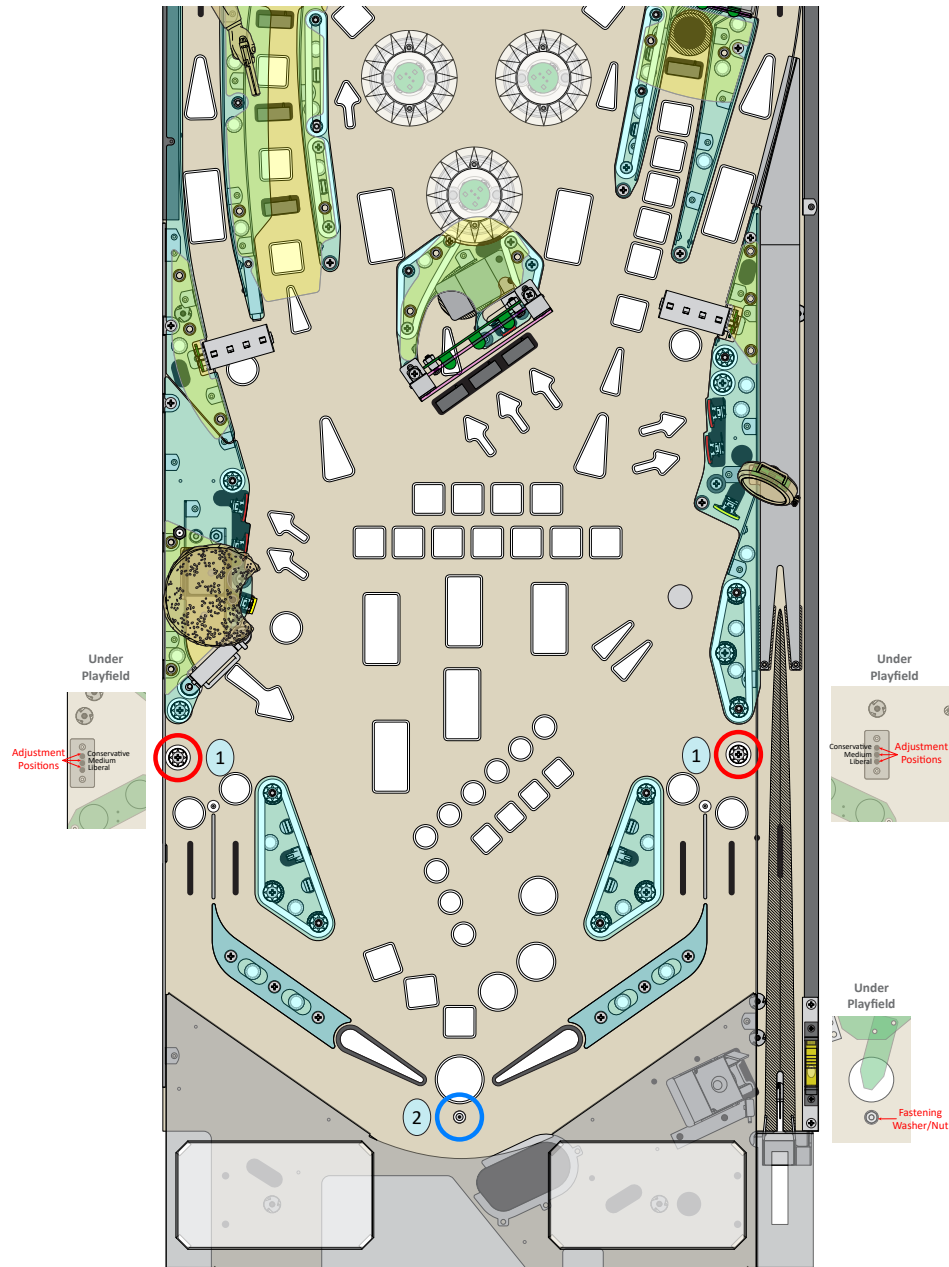

Figure 4-17. Pulp Fiction playfield adjustable posts.
- 1 There are two slotted mounting holes in the playfield for a star post, near the left and right outlanes (circled in red in figure 4-17). A plate is mounted under each slot (on the back of the playfield), with three threaded holes for the star post's machine screw. The posts can be repositioned in these three holes (or removed altogether) to make the game play more or less liberally/conservatively. The most conservative post positions are the highest (furthest from the player) of the three holes (making it easier for the ball to get to the outlanes). When the posts are moved lower (closer to the player), the game will play more liberally (making it more difficult for the ball to get to the outlanes). The most conservative adjustment is to remove the posts altogether. See the star post repositioning, removal and/or installation instructions on the following page.
- 2 The steel mini post between the flippers (circled in blue in figure 4-17) acts as a "straight-down-the-middle" shield during game play. It comes installed in the playfield, from the factory. However, the post is optional and is designed to be safely removed, if you'd like to make the game more challenging. See the mini post removal and/or installation instructions on the following page.